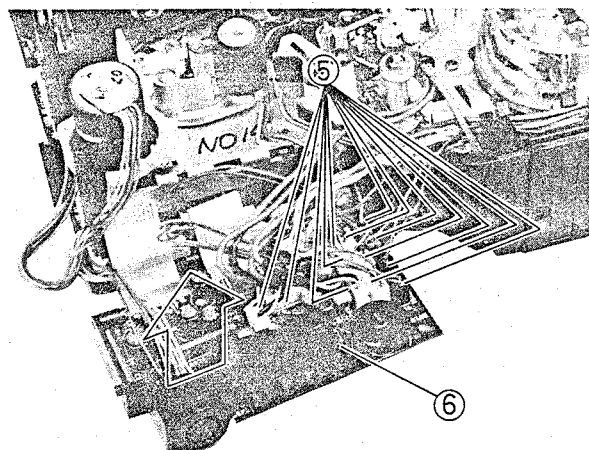

Fig. 2-19 Audio Circuit Board Removal
5. Disconnect twelve (12) connectors (CN415, CN404, CN416, CN125, CN124, CN123, CN122, CN121, CN120, CN119, CN118, CN117). (See Fig. 2-19)
6. Release one (1) tab and remove the A/V OUT connector in the direction of the arrow.